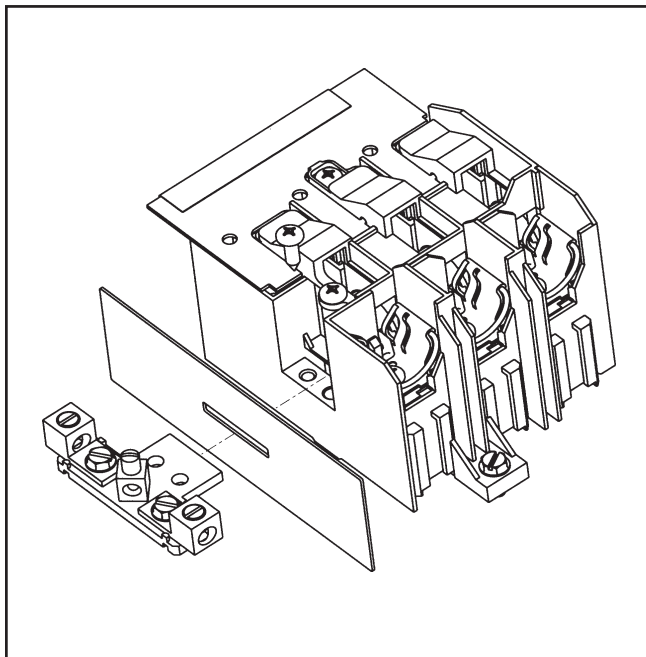

Fig. 1
5. Remove Neutral and slide barrier over the Neutral tab as shown in Fig. 1.